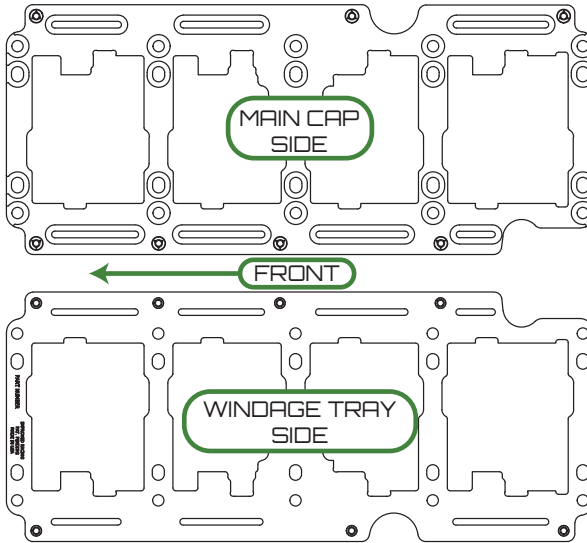

Figure 6 - Correct Crank Scraper Orientation
5. Use Figure 6 to ensure the scraper is oriented correctly, then loosely secure the scraper to the main caps.